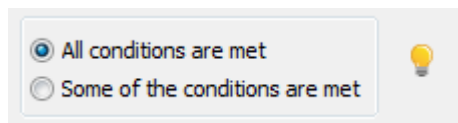

Figure 5.15: Operators.
- Choose “All conditions are met” from operators (Figure 5.15). In this case the rule requires that the schedule is true when any motion is detected.